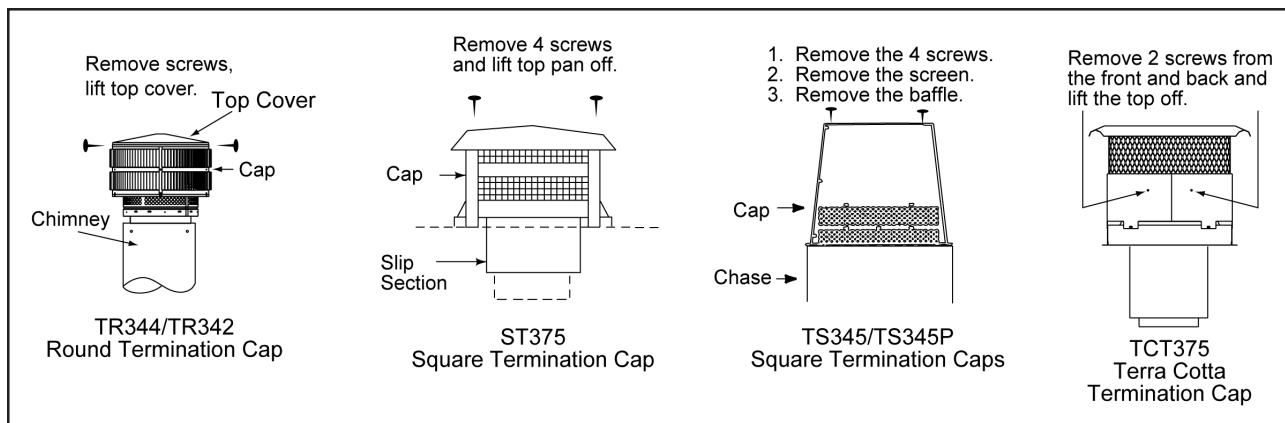

Figure 28 - Chimney & Termination Cap Cleaning
- c. Remove the termination cap or housing top. See Figure 28.